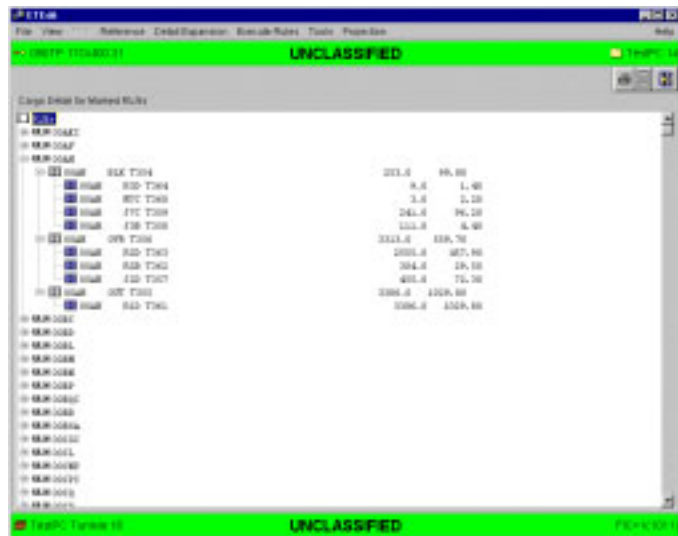

Figure 5.89 ETEdit (Main) Window (Cargo Details Level Three)
- b. Repeat Step a as needed until the required level of cargo details is displayed for the selected ULN (Figure 5.89).